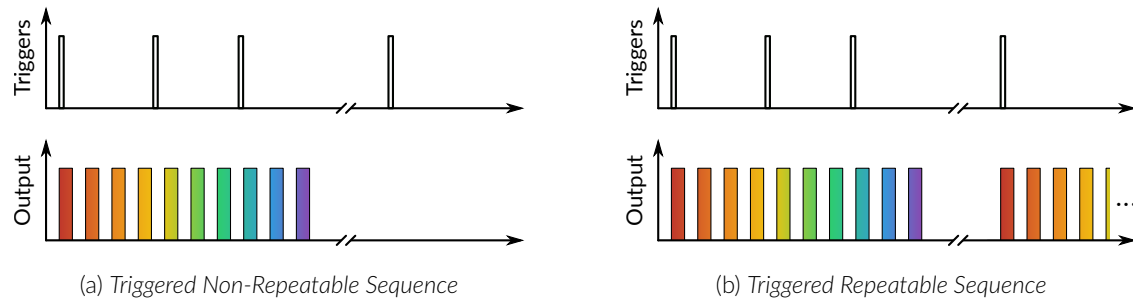

Figure 9.4: Uninterrupted Sequence Mode.
- **Uninterrupted:** This mode activates the channel sequence when an input greater than 3.3 V is detected by the BNC input. Following input pulses will be ignored while the sequence is running (Fig. 9.4). When the **Repeatable sequence** checkbox is checked, the sequence will restart with the arrival of the first input pulse after the sequence has finished (Fig. 9.4b). This mode is available for *Triggered* pulse only.